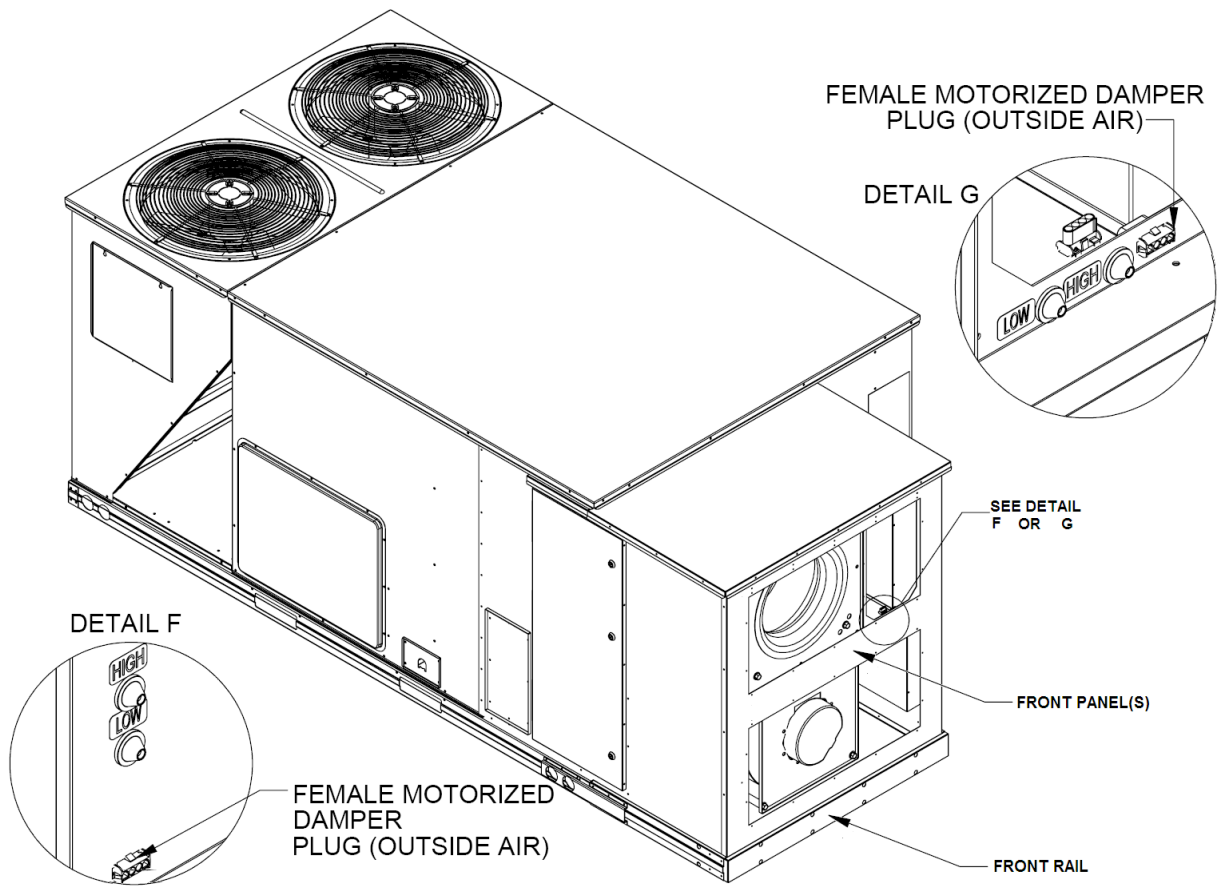

Figure 15 – Panel Removal and 2-Position Plug Connections
4. Disconnect the two 4-pin electrical plugs for the damper actuator from the wiring harness inside the air chambers of the EnergyX unit. See figure 15
4. PG models 03-14 only: Remove the front rail from the front panel and side rails of the EnergyX unit. The front rail is attached by seal-tek screws to the front panel and four seal-tek screws to each side rail. See Figure 15.
6. Remove EnergyX module front panel(s) by removing seal-tek screws in each panel. See Figure 15. On PG 03-14 the front panel is one piece, and on PM 16-25 the front panel is two pieces.